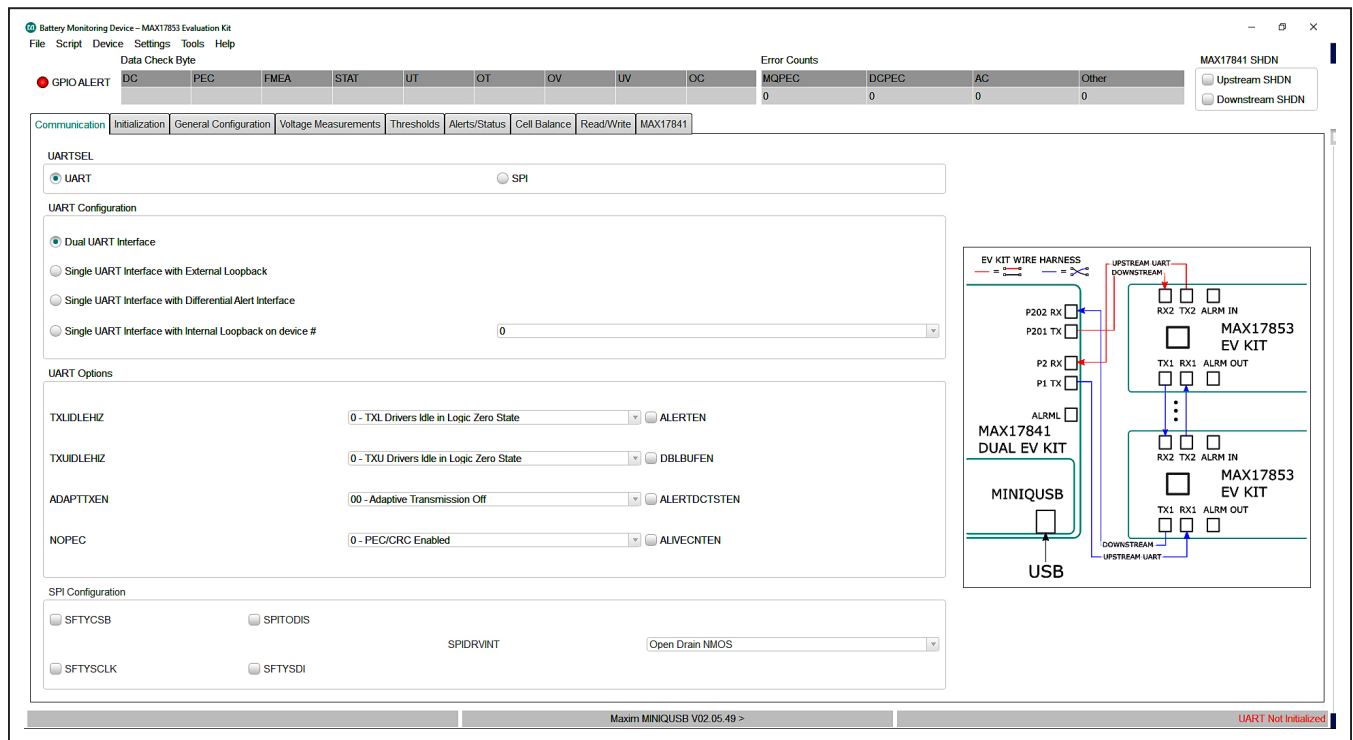

Figure 8. Communication Tab
- 12) Start the MAX17852 EV kit software by opening its icon in the Start Programs menu. The EV kit GUI software automatically establishes communication with the Maxim MINIQUSB+ interface. The status bar at the bottom of the GUI displays **Maxim MINIQUSB+ V02.05.xx** and **UART Not Initialized** (see Figure 8). With the MINIQUSB detected, the user can proceed to the next step.
- 13) In the **Communication** tab (Figure 8), click on the **Single UART with External Loopback** radio button.
The GUI startup cockpit is designed to guide the user through hardware setup and provides overall startup system information. At startup, the GUI automatically initializes and establishes communication with the Maxim MINIUSB+ interface board and places the user on the **Communication** tab (see Figure 8). UART status is shown in the lower-right corner of the cockpit.
The GUI is preset to UART communication with a dual UART interface (see Figure 8). When selecting the UART configuration, the hardware graphic updates to reflect the
Located in the **Communication** tab (Figure 8) is the **UART Options** group box. Options set in the **UART Options** group box control TXL and TXU idle state impedance, adaptive transmission setting, and packet error check (PEC). The user can also enable and evaluate the alert function, double-buffer feature, UART DC diagnostic test, and control the alive-counter bit (ALIVECNTEN).